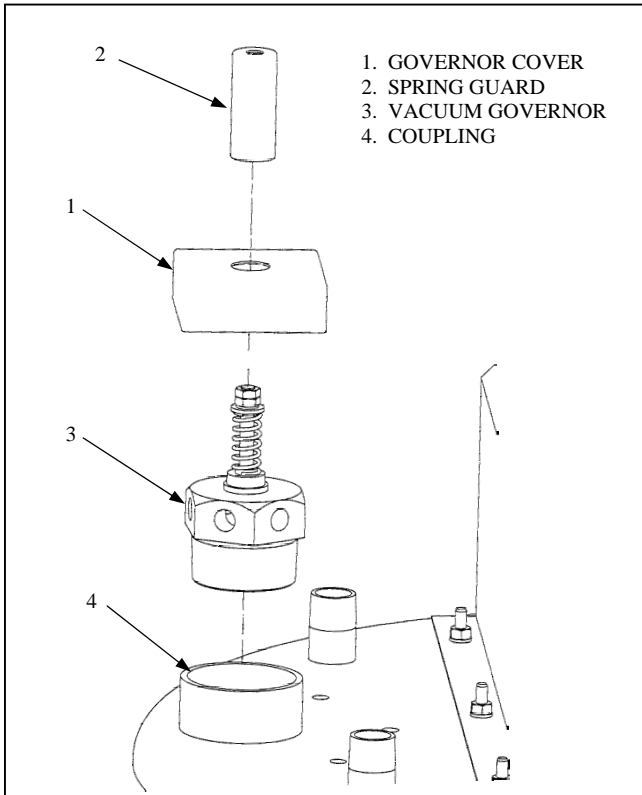

Figure 5-6. Vacuum Governor
- c. Lift vacuum generator vertically to remove. Note presence of gasket (2).
- d. Disassembly Tank Vacuum Valve (4), street elbows (3), and nipples (5), as needed.
5.3.3 Vacuum Governor. Use Figure 5-6 for the following maintenance steps. The Vacuum Governor is located on the right side of the Vacuum System Assembly.
- a. Remove vacuum governor cover (1), by unscrewing component (2) from the assembly.
- b. Remove vacuum governor (3) from Sediment Chamber Lid fitting (4).